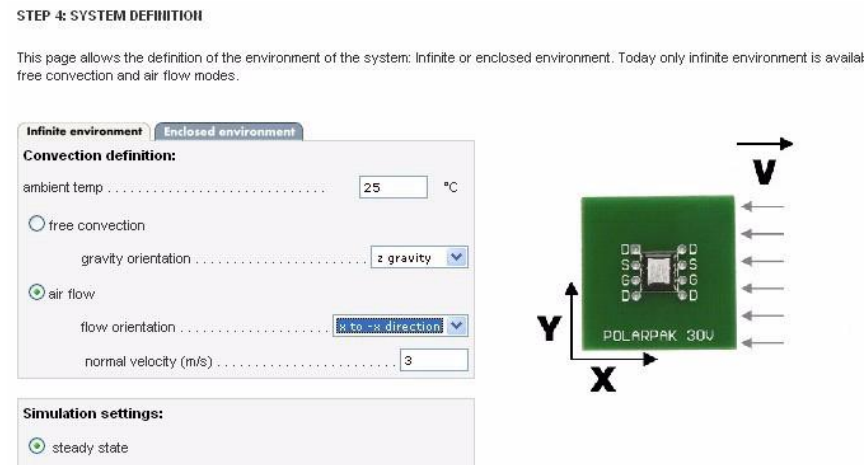

Figure 38.
- **X to -X direction** for air blowing right to left over the PCB and component (See Figure 38).